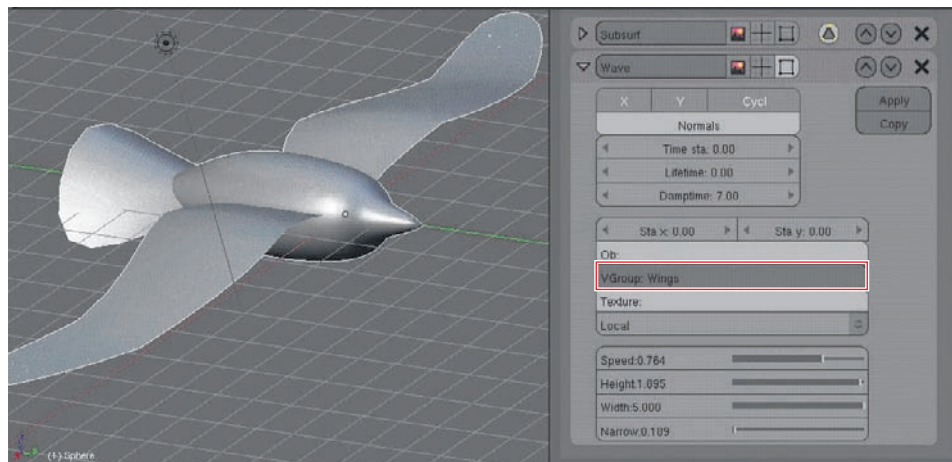

Figure 2.65 Wave modifier
3. Tab into Object mode and add a Wave modifier with the settings as shown in Figure 2.65. By entering *Wings* in the VGroup field, you ensure that the modifier acts only on the vertices in that vertex group. Press Alt+A to test the motion of the wings. The wings should flap convincingly. If not, adjust the parameters of the Wave modifier until you are satisfied with the way the wings are moving. For truly realistic bird wing movements, it would be necessary to create a sophisticated rig and animate it. In this case, however, the birds are intended to be seen from a distance and in a large group, so the Wave modifier will be sufficient.